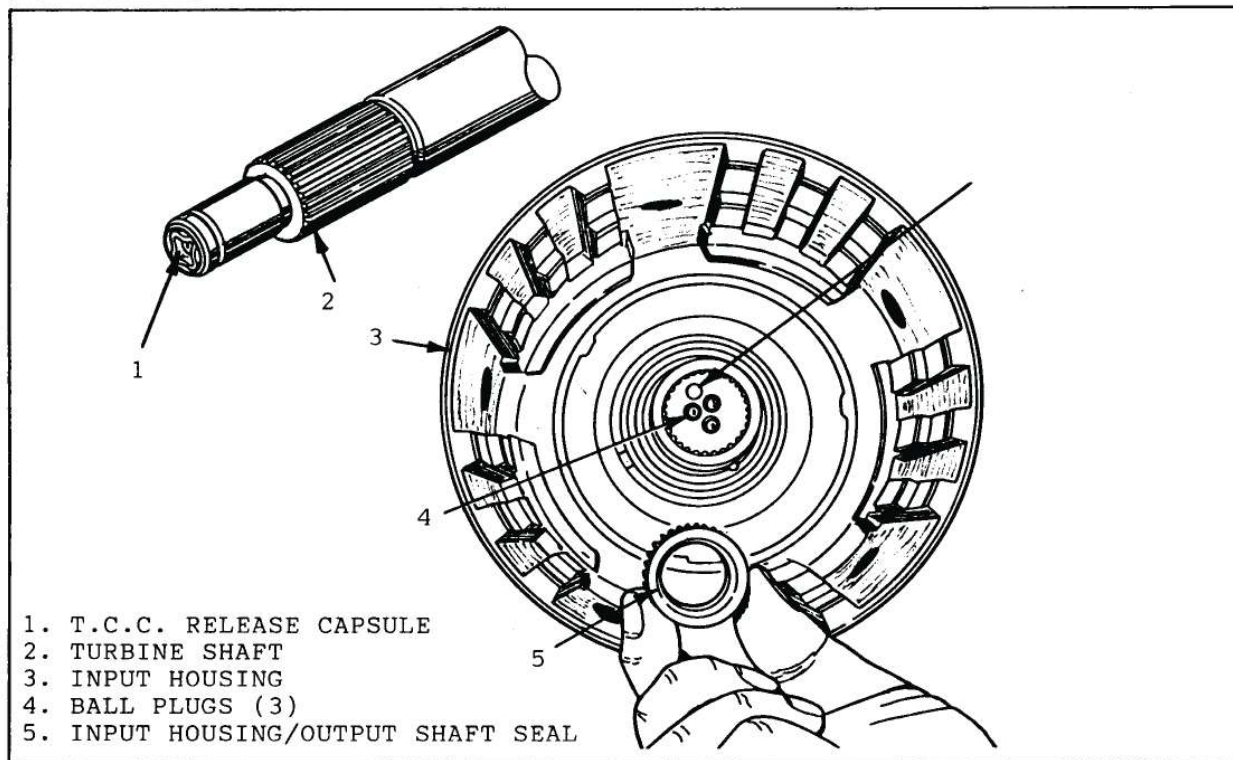

Figure 71
4. Inspect the three turbine shaft sealing balls (Figure 71). The balls must not be loose or leaking. The open hole is the lube oil passage which feeds the output shaft (Figure 71).
8. Inspect TCC release capsule for damage (Figure 71). The ball must move freely in the retainer and the retainer must be tight in the turbine shaft.
5. Install input housing lube oil seal into input housing as shown in Figure 71.